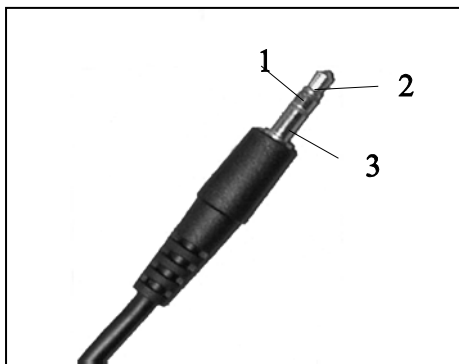

Figure 45. The Nurse Call Stereo Jack
2. The signals on the three connector contacts (seen in Figure 45. The Nurse Call Stereo Jack, below) are:
- Normally closed (1)
- Normally open (2)
- Common (3)